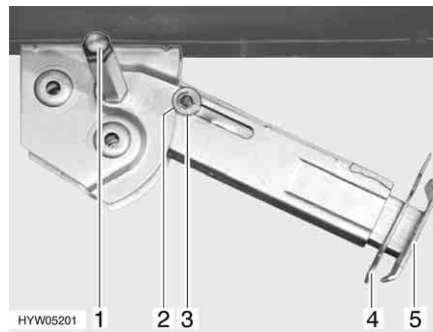

Fig. 33 Steady leg
- Place the socket spanner on the hexagon nut (Fig. 33,1) and rotate until the steady leg is in a perpendicular downward position.
- Remove the splint (Fig. 33,4) out of the support foot extension (Fig. 33,5).
- Place the socket spanner on the hexagon nut (Fig. 33,1) and rotate until the steady leg is clear of the ground.
- Push in the support foot extension (Fig. 33,5) and insert the splint (Fig. 33,4) in the drilled hole in the support foot extension.
- Rotate the hexagonal nut (Fig. 33,1) with the socket spanner until the steady leg has swung upwards and the guide disc (Fig. 33,3) has completely retracted into the notch (Fig. 33,2).